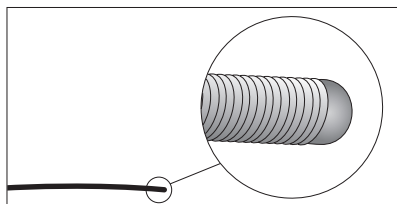

Figure 8
33. Examine tip of placement wire/stiffening stylet after removal to ensure wire has not been altered (refer to Figure 8).